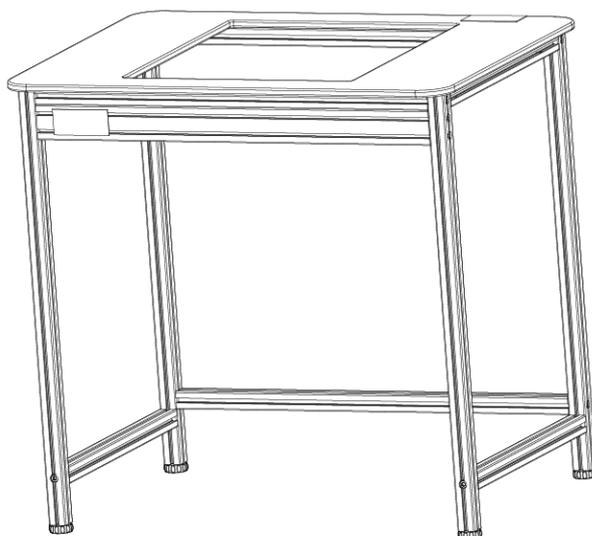

Figure 9
6. Make sure the 2 sides are all parallel after the screws are tight. You can see the assembled view in Figure 9